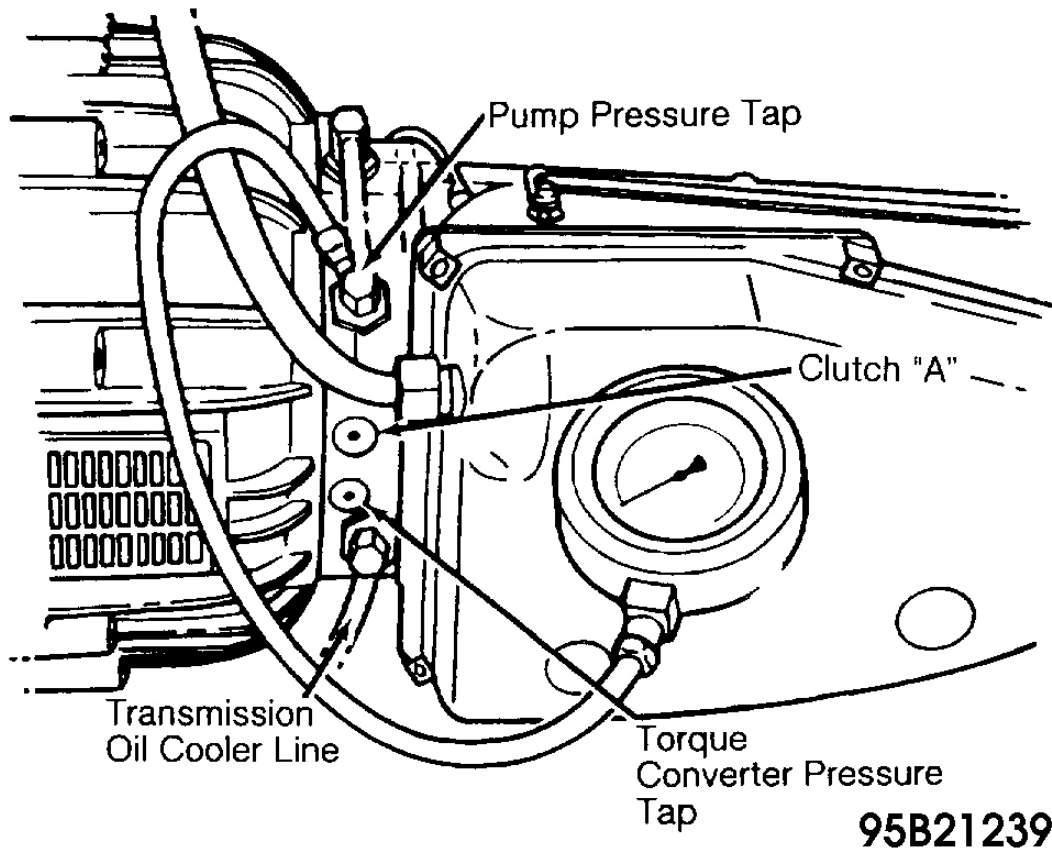

Fig. 2: Identifying Pressure Tap Locations
- Pump pressure and torque converter pressure may be checked. Remove pressure tap plugs from pump pressure tap and torque converter pressure tap on transmission case. See **Fig. 2** . Connect pressure gauge to pump pressure tap and torque converter pressure tap.